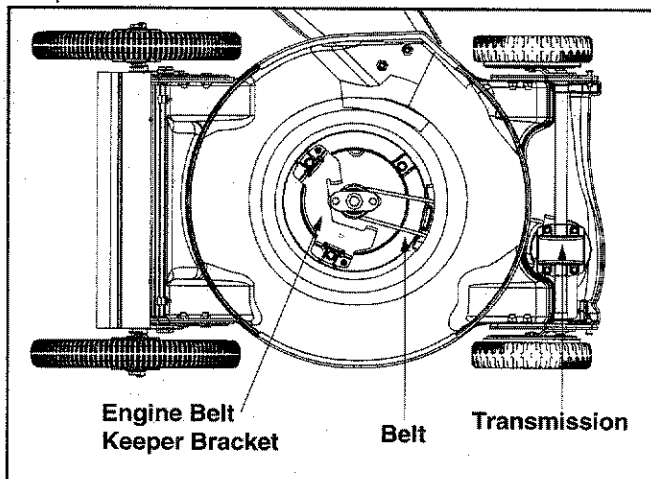

Figure 15
- If belt can not be removed by slipping belt around blade, then remove the blade following the steps in the previous section. See Figure 15.